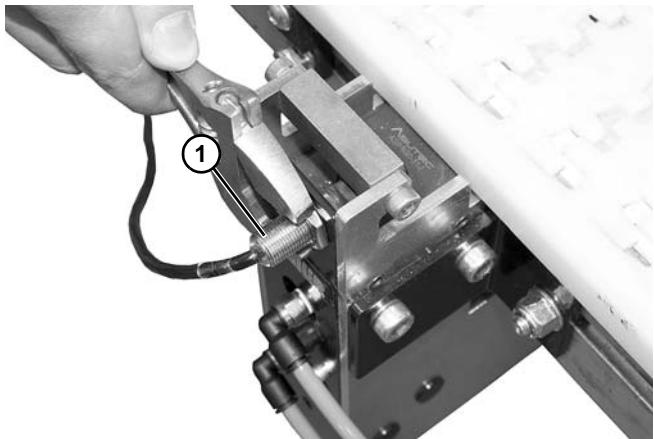

Figure 17
1. Mount pallet sensing 12 mm barrel proximity sensor (**Figure 17, item 1**).